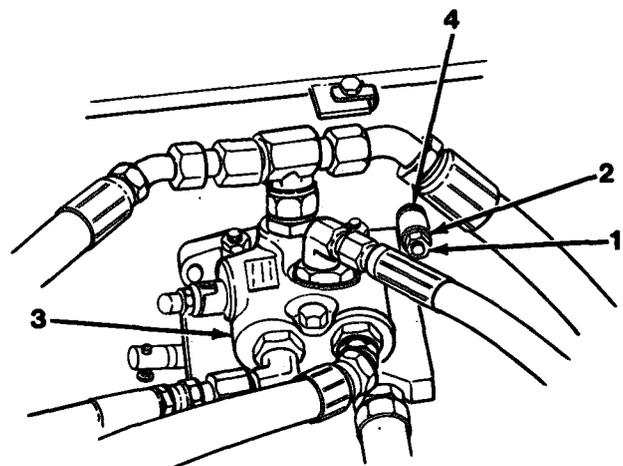

Figure 16-1
5. Remove three nuts (1) and lockwashers (2) securing winch control valve (3, Figure 16-1) to frame location.
6. Remove winch control valve (3) and three washers (4) from frame location.